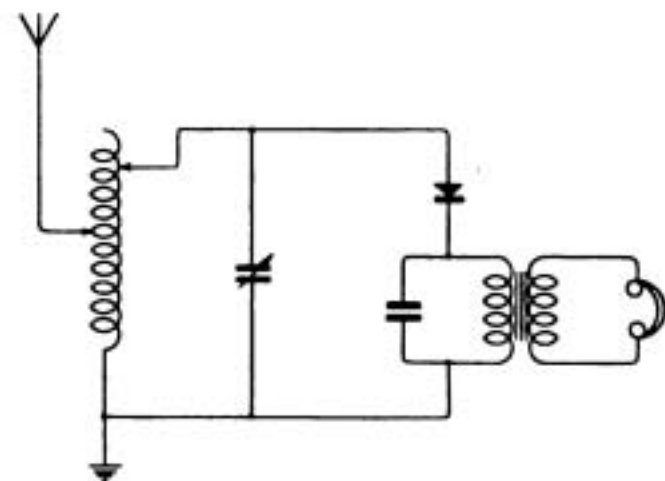

Fig. 8.
M.A.J. (Pengam)—(1) See Fig. 8.
(2) The wavelength as shown will be about 9,000 ms. This is much higher than necessary. Rewind the A.T.I. with No. 22 or No. 24.